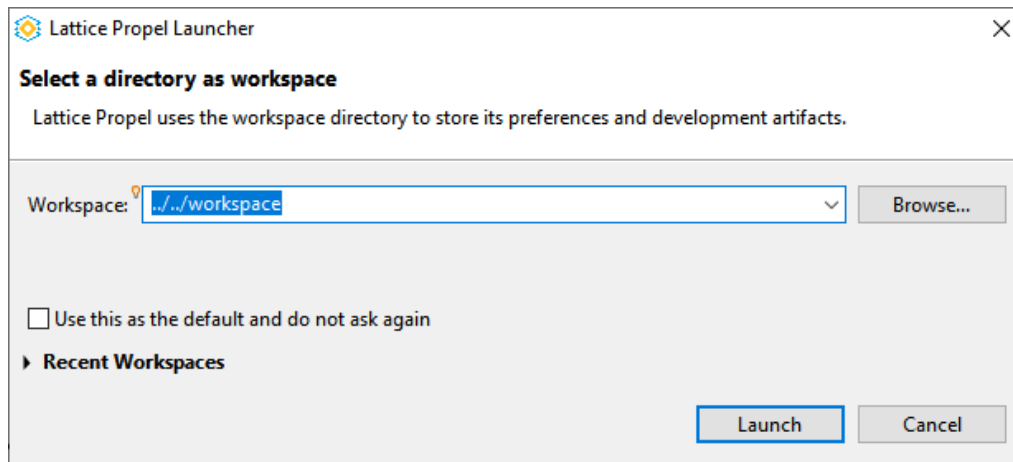

Figure 2.140. Lattice Propel Launcher Wizard
1. Click the **Run Propel** icon  from Propel Builder GUI Toolbar. Lattice Propel Launcher (Figure 2.140) opens.